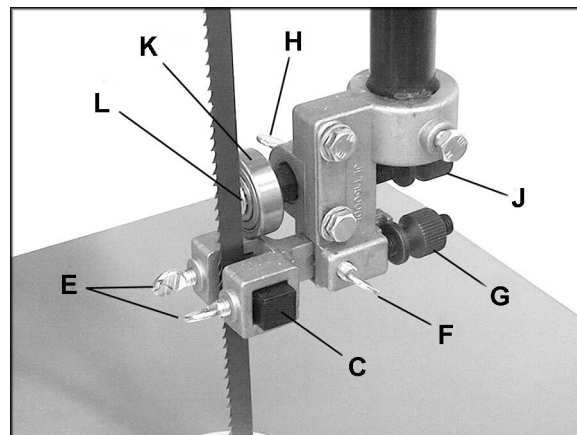

Figure 31
6. Tighten thumb screw (F, Figure 31).
7. The blade support bearing (K, Figure 31) should be adjusted so that the back edge of the blade overlaps the front face of the ball bearing approximately 1/8". To change position of the bearing, remove screw (L, Figure 31), and bearing (K, Figure 31). Loosen thumb screw (H, Figure 31) and back off knurled knob (J, Figure 31) completely to remove the bearing shaft.
8. Notice the bearing holder on the shaft is eccentric. Index the bearing shaft to another position and slide it back in, making sure the flange on the thumb screw (H, Figure 31) properly seats into the groove of the bearing shaft. Re-install the bearing and the screw. Examine the overlap between the bearing face and the blade. Change the position of the bearing shaft until the overlap is approximately 1/8".